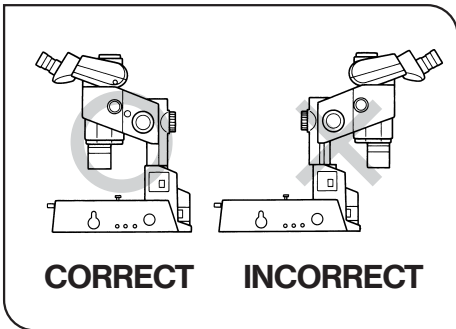

Fig. 1
4. When installing the microscope body, install it in the manner indicated by the “○” shown in the illustration on the left. The microscope will tip if it is installed the other way. Also be sure to keep the horizontal swivel angle at 30° or less. (Figs. 1 & 2)